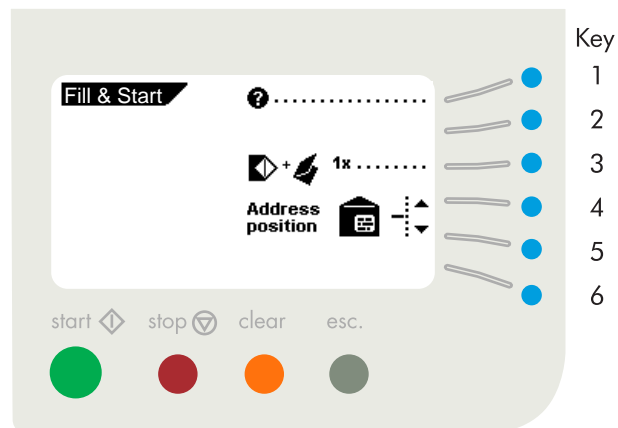

Fig. 26
To try again, start again from the "main menu (1)". After a testset run the display shows the "Fill & Start™" menu (fig. 26) again, extended with the possibility of adjusting the address position. If needed adjust the address position as follows:
- press key 4 to set the address higher. Each key stroke brings the address up 1 mm (0.04 inch) (maximum 10 mm (0.4 inch) higher).
- press key 5 to set the address lower. Each key stroke brings the address down 1 mm (0.04 inch) (maximum 10 mm (0.4 inch) lower).
Press key 1 (fig. 26) in the "Fill & Start™" menu for the "Fill & Start" help advice. This screen gives suggestions for the Fill & Start™ usage. Press key 6 to return to the "Fill & Start" menu.